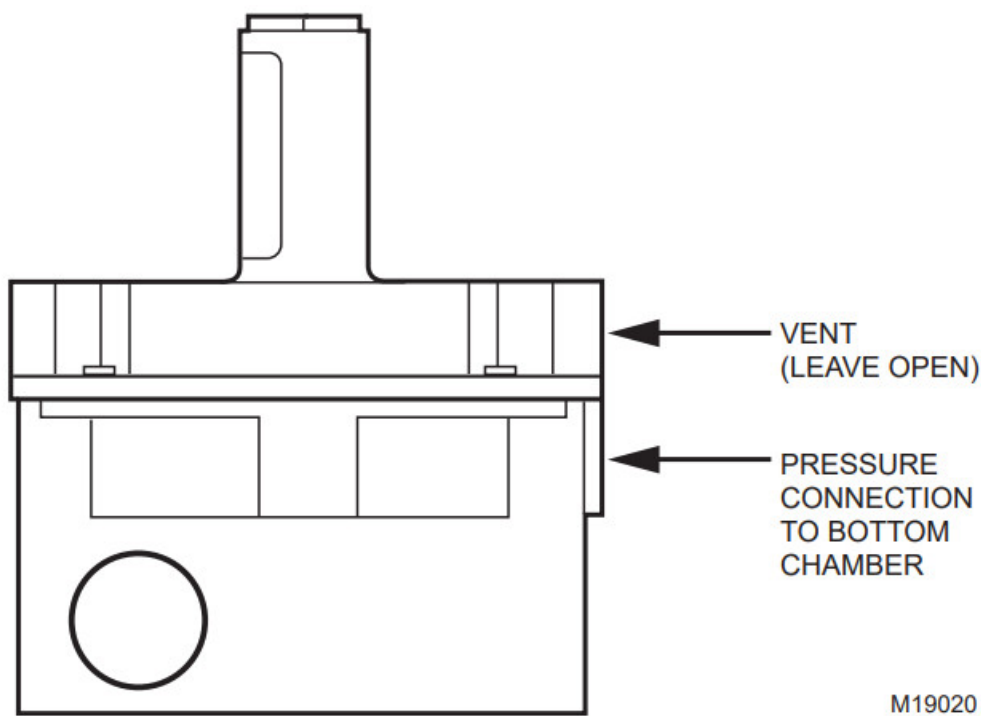

Fig. 3. Installing threaded barb fitting into lower pressure port.
2. Install one threaded barb fitting into the lower pressure port as shown in Fig. 3.